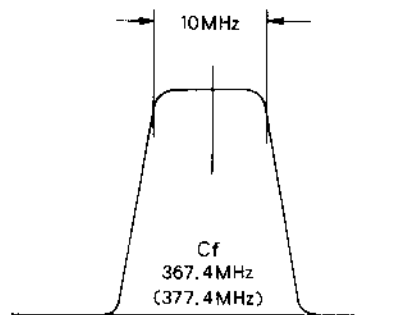

Figure 6
- c) Adjust  $TC_{3007}$ ,  $TC_{3008}$ ,  $TC_{3009}$ ,  $TC_{3010}$ ,  $TC_{3011}$  and  $TC_{3012}$  until the scope pattern illustrated in Figure 6 is achieved.